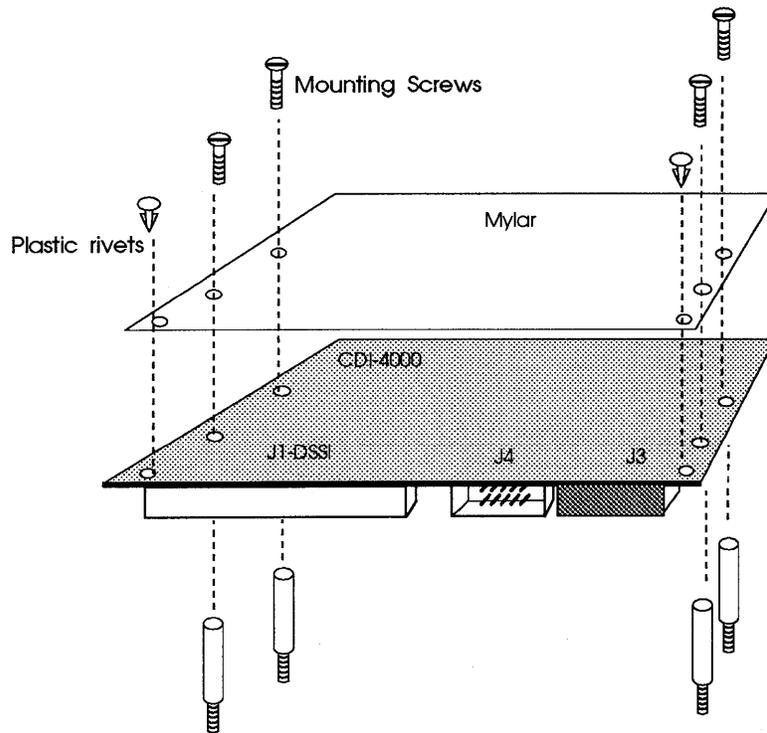

Figure 4-15: Mounting mylar and standoffs, CDI-4000-SA1
- 6 Place the mylar insulator on top of the CDI-4000; put two rivets into the CDI-4000 through the mylar; see Figure 4-15.
- 7 Put the four screws into the four threaded standoffs through the mylar and the CDI-4000. See Figure 4-15.